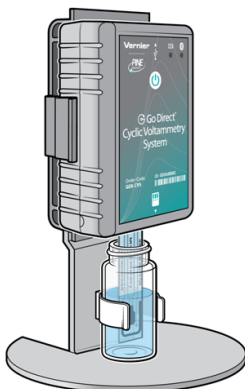

Figure 2
- a. Fill the scintillation vial about halfway full (~10 mL) with your 0.1 M potassium chloride solution. Insert the scintillation vial into the clip on the stand. Carefully guide the Cyclic Voltammetry System with SPE attached downward into the vial and snap the instrument into place, as shown in Figure 2. **Caution:** *Treat all laboratory chemicals with caution. Prudent laboratory practices should be observed.*